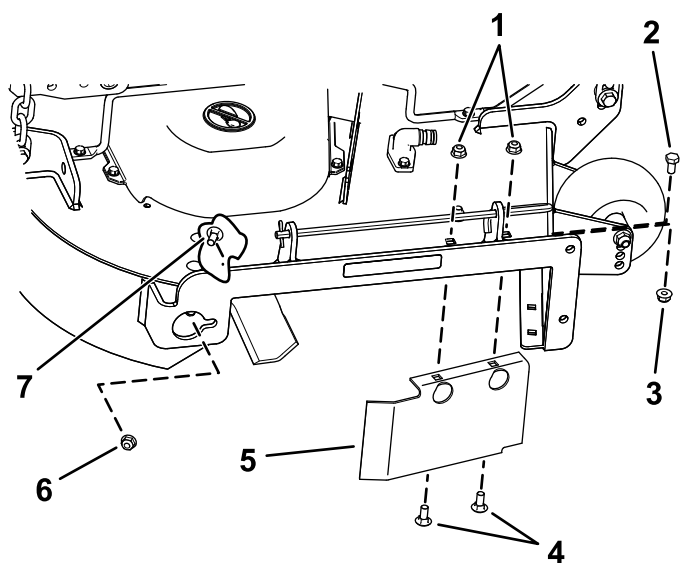

Figure 17
8. Remove the carriage bolt (5/16 x 3/4 inch) and locknut (5/16 inch) on the rear wall of the mower deck securing the baffle to the deck (Figure 17).
9. Locate the baffle guard at the front edge of the side discharge opening (Figure 17).
10. Remove the fasteners securing the baffle guard and the right baffle to the mower deck (Figure 17).
13. Install the fasteners removed previously at the front holes in the discharge plate and forward hole in the deck (Figure 17).